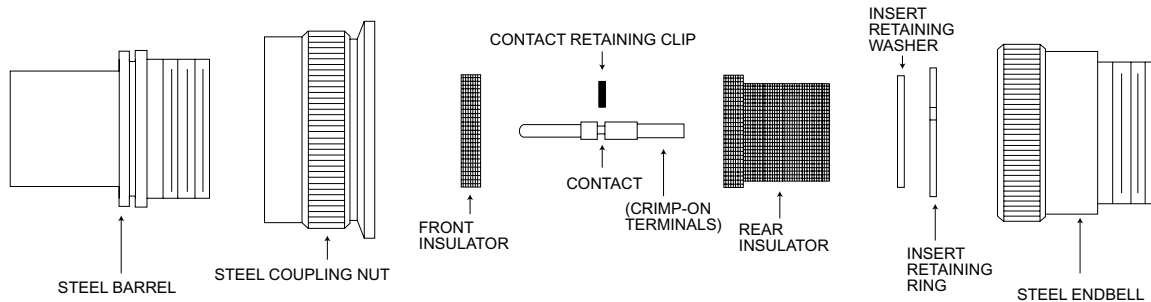

FIGURE 1
- \* 1. Remove Formica retaining ring (or the ceramic retaining ring) from contact (Figure 1).
5. Attach Formica retaining ring onto the contact (see Figure 1).